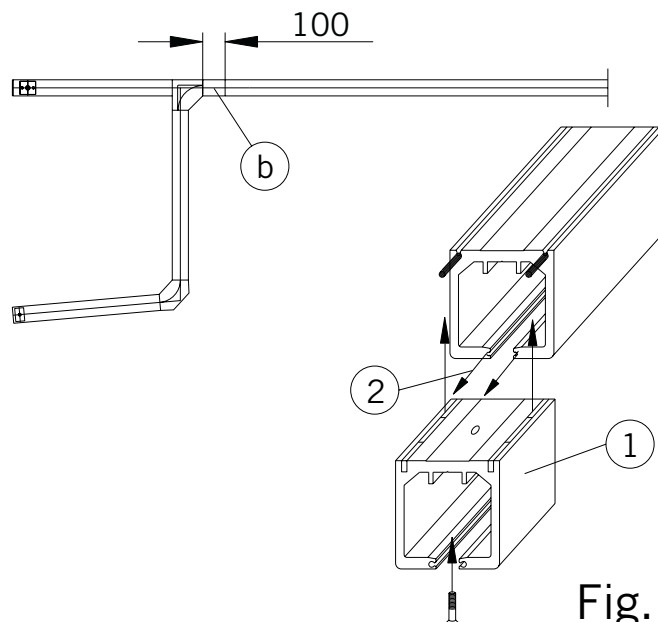

Fig. 7
The maintenance end piece (b) can be removed for the replacement of defective rollers. For this purpose, the pins in the track channel need to be pushed back (using for example a flat tipped screwdriver); the screw must then be loosened and the maintenance end piece can then be withdrawn. When re-installing the maintenance end piece, insert it back into the track run (1), screw fix and then push the pins (2) back across the joint in order to secure the track surfaces and ensure that they are flush (Fig. 7).